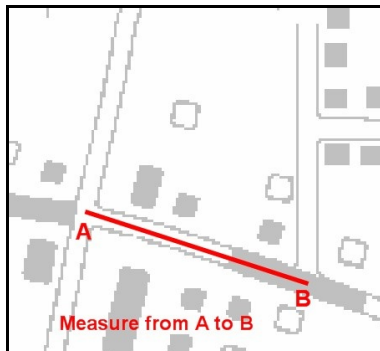

Figure 2
- Measure the distance between Point A and Point B on Figure 2.
- At the *Select A Known Point On The Background Image* prompt, click Point A as shown in Figure 2.
- At the *Select Another Known Point On The Background Image* prompt, click Point B as shown in Figure 2.